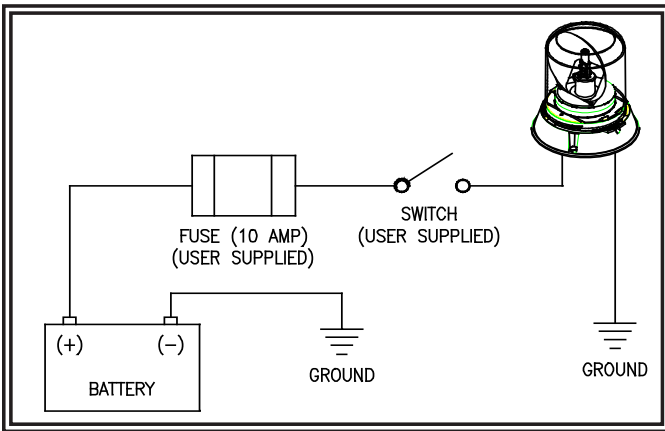

Figure 2
2. Remove the three (3) mounting bolts from the base.
6. Wire the beacon as shown in Figure 2. Apply sealant around the wires where they pass through the mounting surface to prevent leakage.
5. Wire the beacon as shown in Figure 2. Apply sealant around the wires where they pass through the mounting surface to prevent leakage.